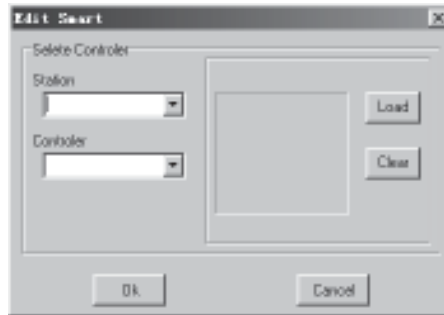

**Fig. 4-30 Connect the Input and Output of Animated Picture and FAB**
Similarly, the user may select the other diagrams and here we will omit the detailed procedure. When the user selects the Image option as in Fig. 4-30, the user may insert the BMP picture files.
3. Select and click Link, the system will display the dialogue frame as in Fig. 4-30. Select the FAB I/O Port of the working station that actually corresponds to the exhausting fan and click the Confirm button. Thus the animated picture inserting and inter-connecting is completed. When the system is running normally, under the situation conditions satisfied and the exhausting fan in the control site is working, its state will be transferred in realtime to the monitoring system and will be shown in the designed animated pictures. By this function, the user may observe the running state of any equipment graphically.